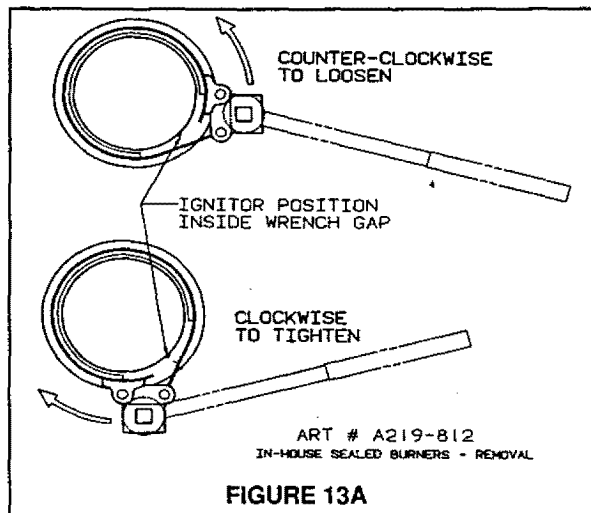
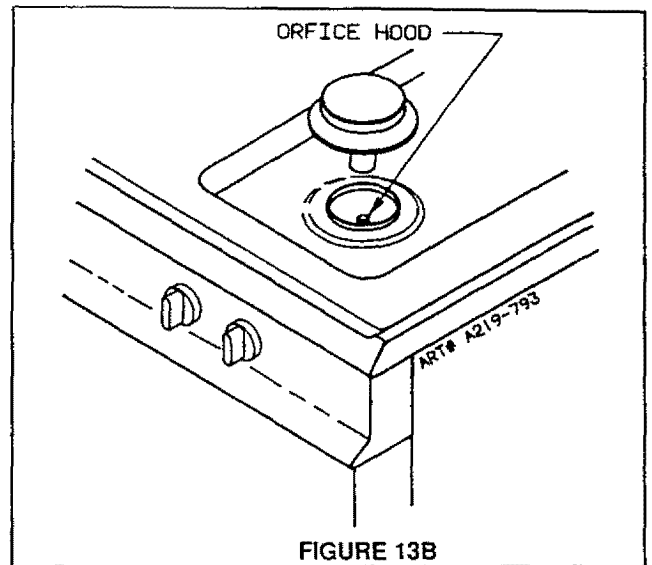

FIGURE 13A
FIGURE 13B
- a. Place burner wrench (part no. 8002P026-60, available from your dealer or authorized service agency\*) over surface burner assembly with ignitor positioned inside gap in wrench ring (figure 13A). This prevents ignitor from being crushed when wrench tightens on burner assembly. Rotate burner assembly approximately one-eighth turn counter-clockwise and lift from main top (figure 13B). Using a 1/2" deep-well socket, tighten each burner orifice hood approximately two complete turns clockwise TO THE CLOSED POSITION. Replace burner assembly in main top and rotate approximately one-eighth turn clockwise using burner wrench until burner locks into position with ignitor facing rearward.
- a. Place burner wrench (part no. 8002P026-60, available from your dealer or authorized service agency\*) over surface burner assembly with ignitor positioned inside gap in wrench ring (figure 13A). This prevents ignitor from being crushed when wrench tightens on burner assembly. Rotate burner assembly approximately one-eighth turn counter-clockwise and lift from main top (figure 13B). Using a 1/2" deep-well socket, loosen each burner orifice hood approximately two complete turns counter-clockwise. Replace burner assembly in main top and rotate approximately one-eighth turn clockwise using burner wrench until burner locks into position with ignitor facing rearward.